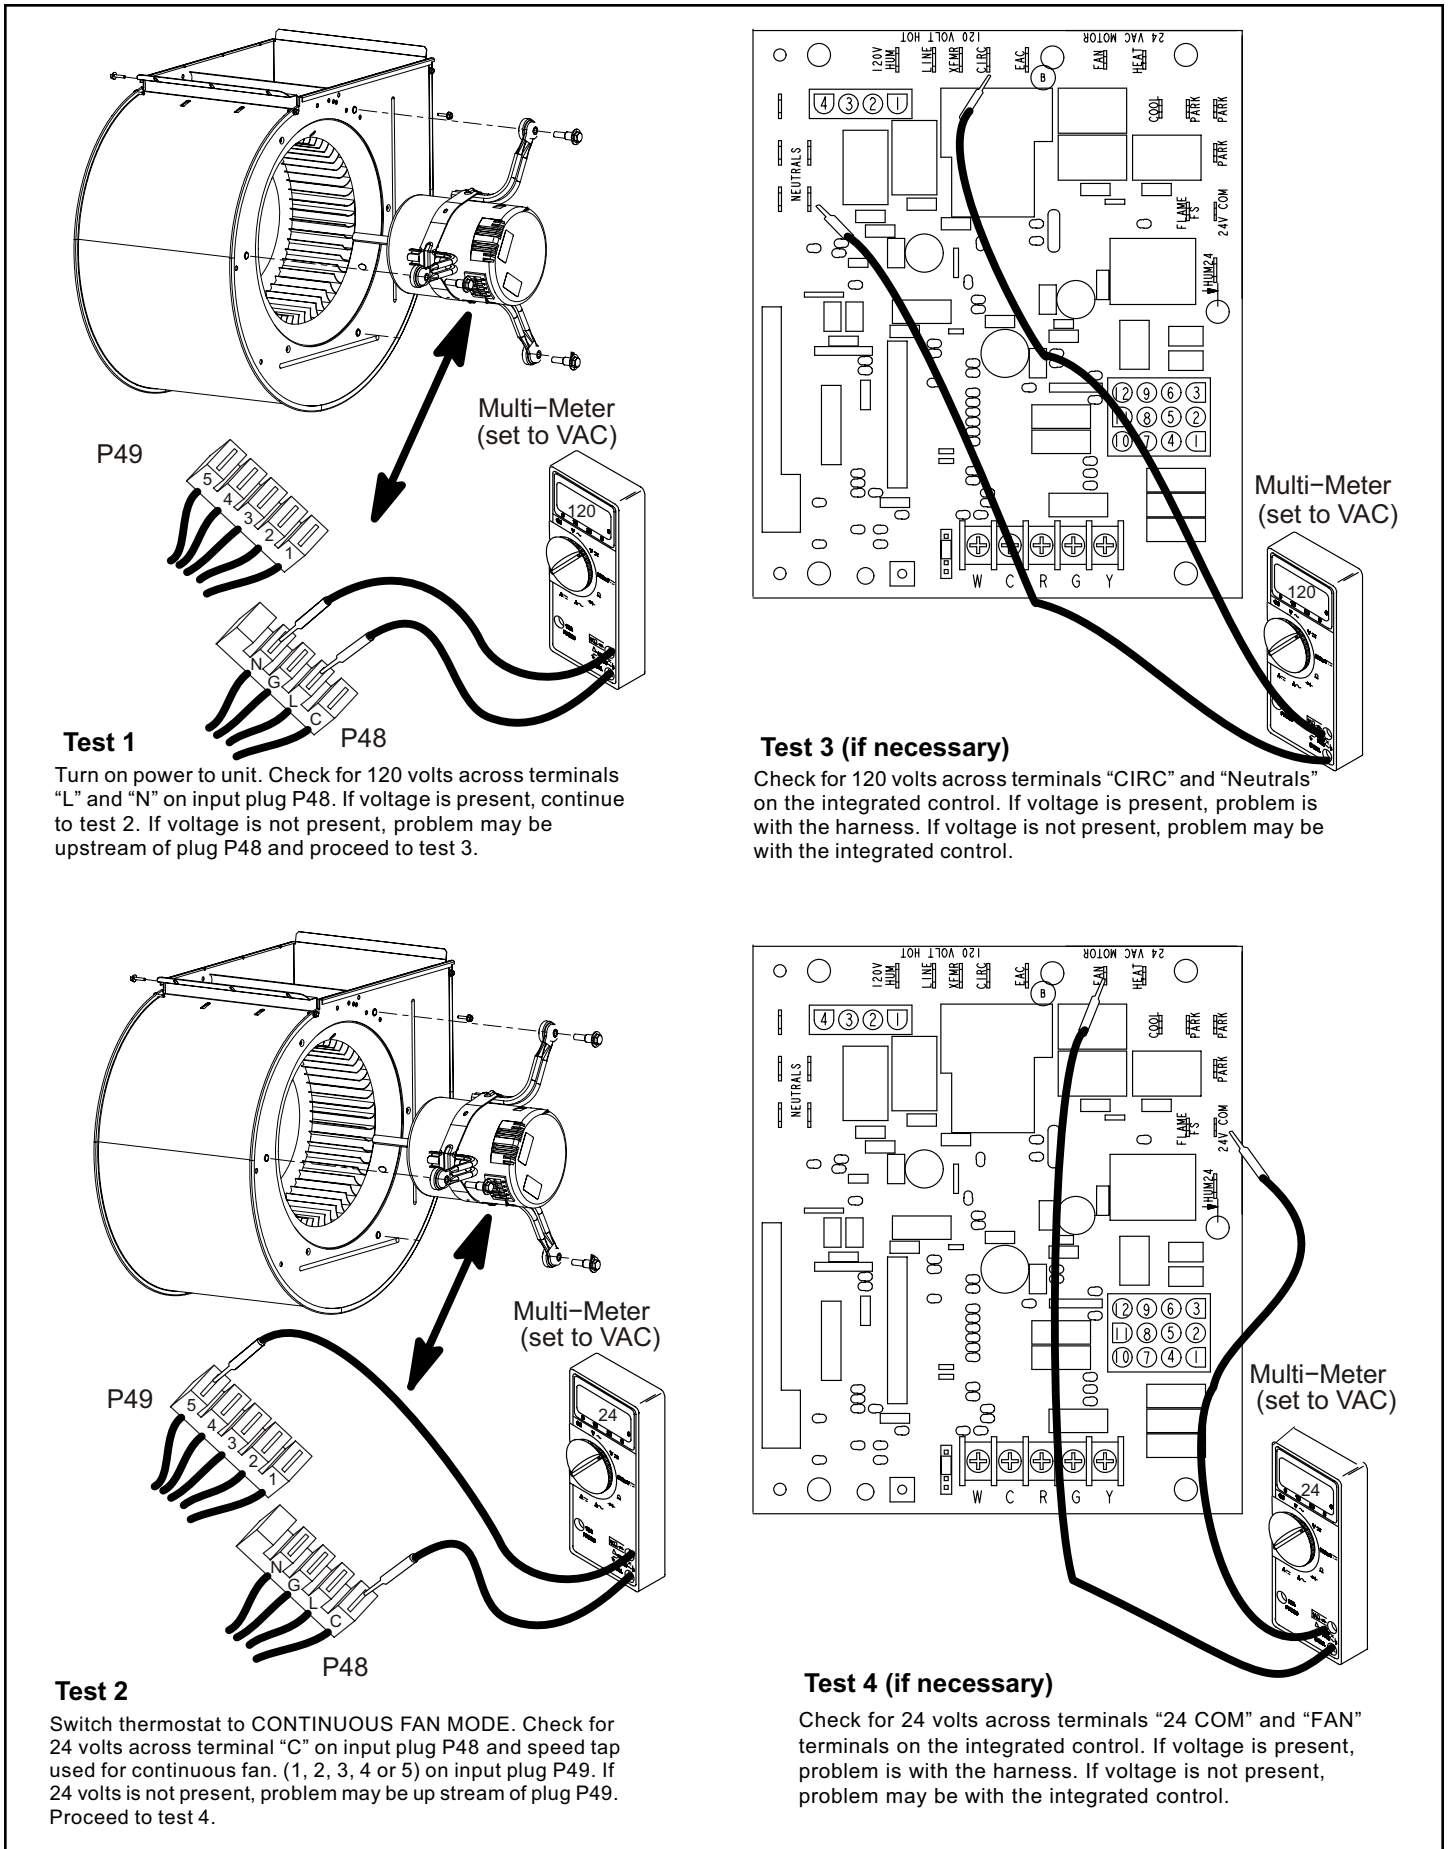

Figure 17.
2. Remove input plugs P48 and P49 from motor. See Figure 17 for troubleshooting procedure.